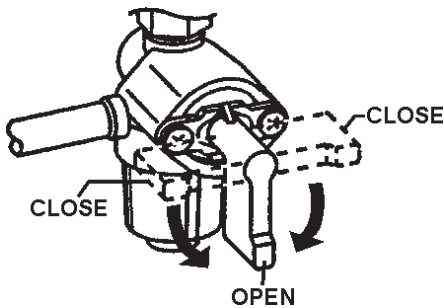

Figure 7. Fuel Valve Lever (Open)
1. Place the engine **fuel valve lever** (Figure 7) to the **OPEN** position.